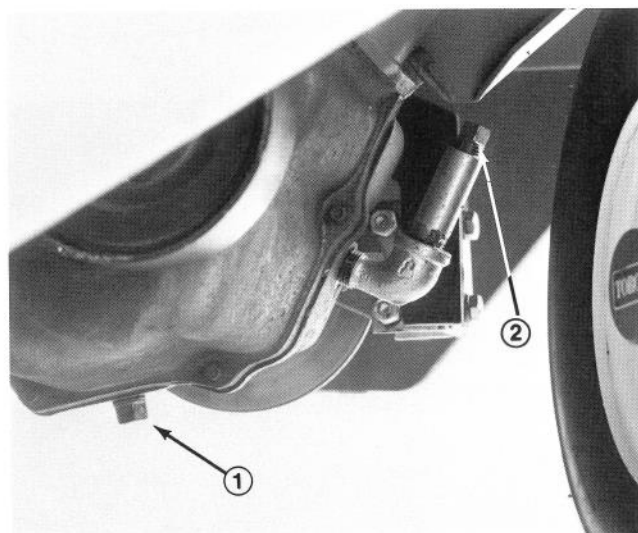

Figure 36
1. Place a drain pan below drain plug on axle. Clean area around drain plug (Fig. 36).
3. Remove fill plug (Fig. 36) and pour approx. 64 oz. of SAE E.P. 90 wt. oil into extension tube. Stop when oil level reaches top of tube.